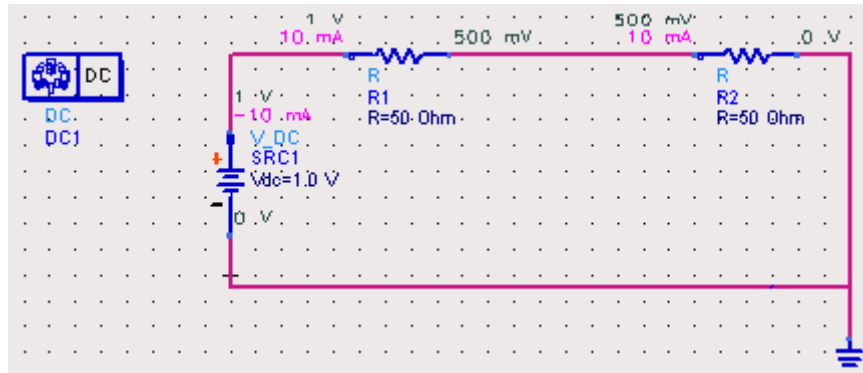

Figure 8: DC simulation results
**12.** Print the DC simulation results on the schematic by choosing **Simulate->Annotate DC Solution**. Your schematic should look like Figure 8 below.
13. Edit the component parameters for R1 (your R1 resistor may be named differently than the one in Figure 8, therefore, to clarify, the R1 resistor is the resistor directly following the positive terminal of the DC voltage supply). You can do this in four different ways: